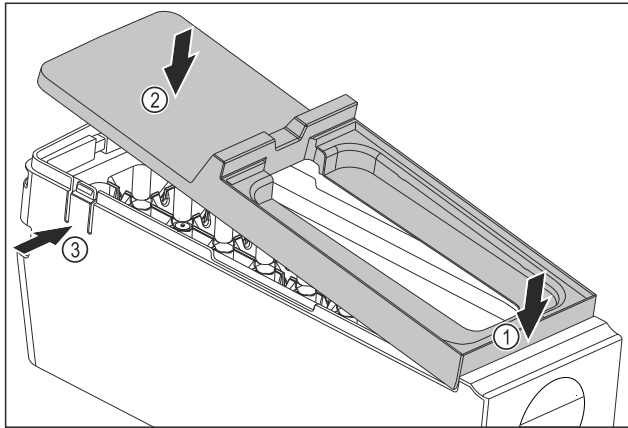

Fig. 80
- ▶ Installing the EasyTwist-Ice body cover: Place the cover on the front. Fig. 80 (1)
- ▶ Lower the cover at the rear. Fig. 80 (2)
- ▷ The cover locks into both tabs Fig. 80 (3) audibly.